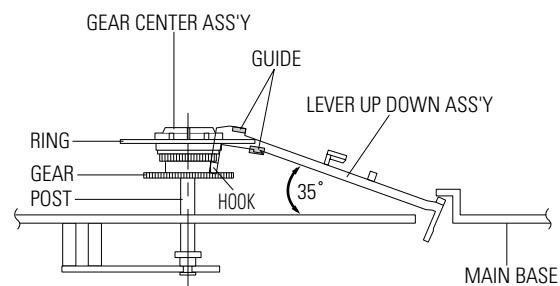

Fig. 3-22 Lever Up Down Ass'y Removal
- 1) Insert the Lever Up Down Ass'y ① in the rectangular holes on Main Base as shown in Fig 3-22.
- 2) Lift the Lever Up Down Ass'y ① about 35°. (Refer to Fig 3-22)
- 3) Insert Ring of the Gear Center Ass'y ② in the Guide of the Lever Up Down Ass'y ①.
- 4) Insert the Gear Center Ass'y ② in the post on Main Base.
- 5) Push down the Lever Up Down Ass'y ① for locking of the Hook.